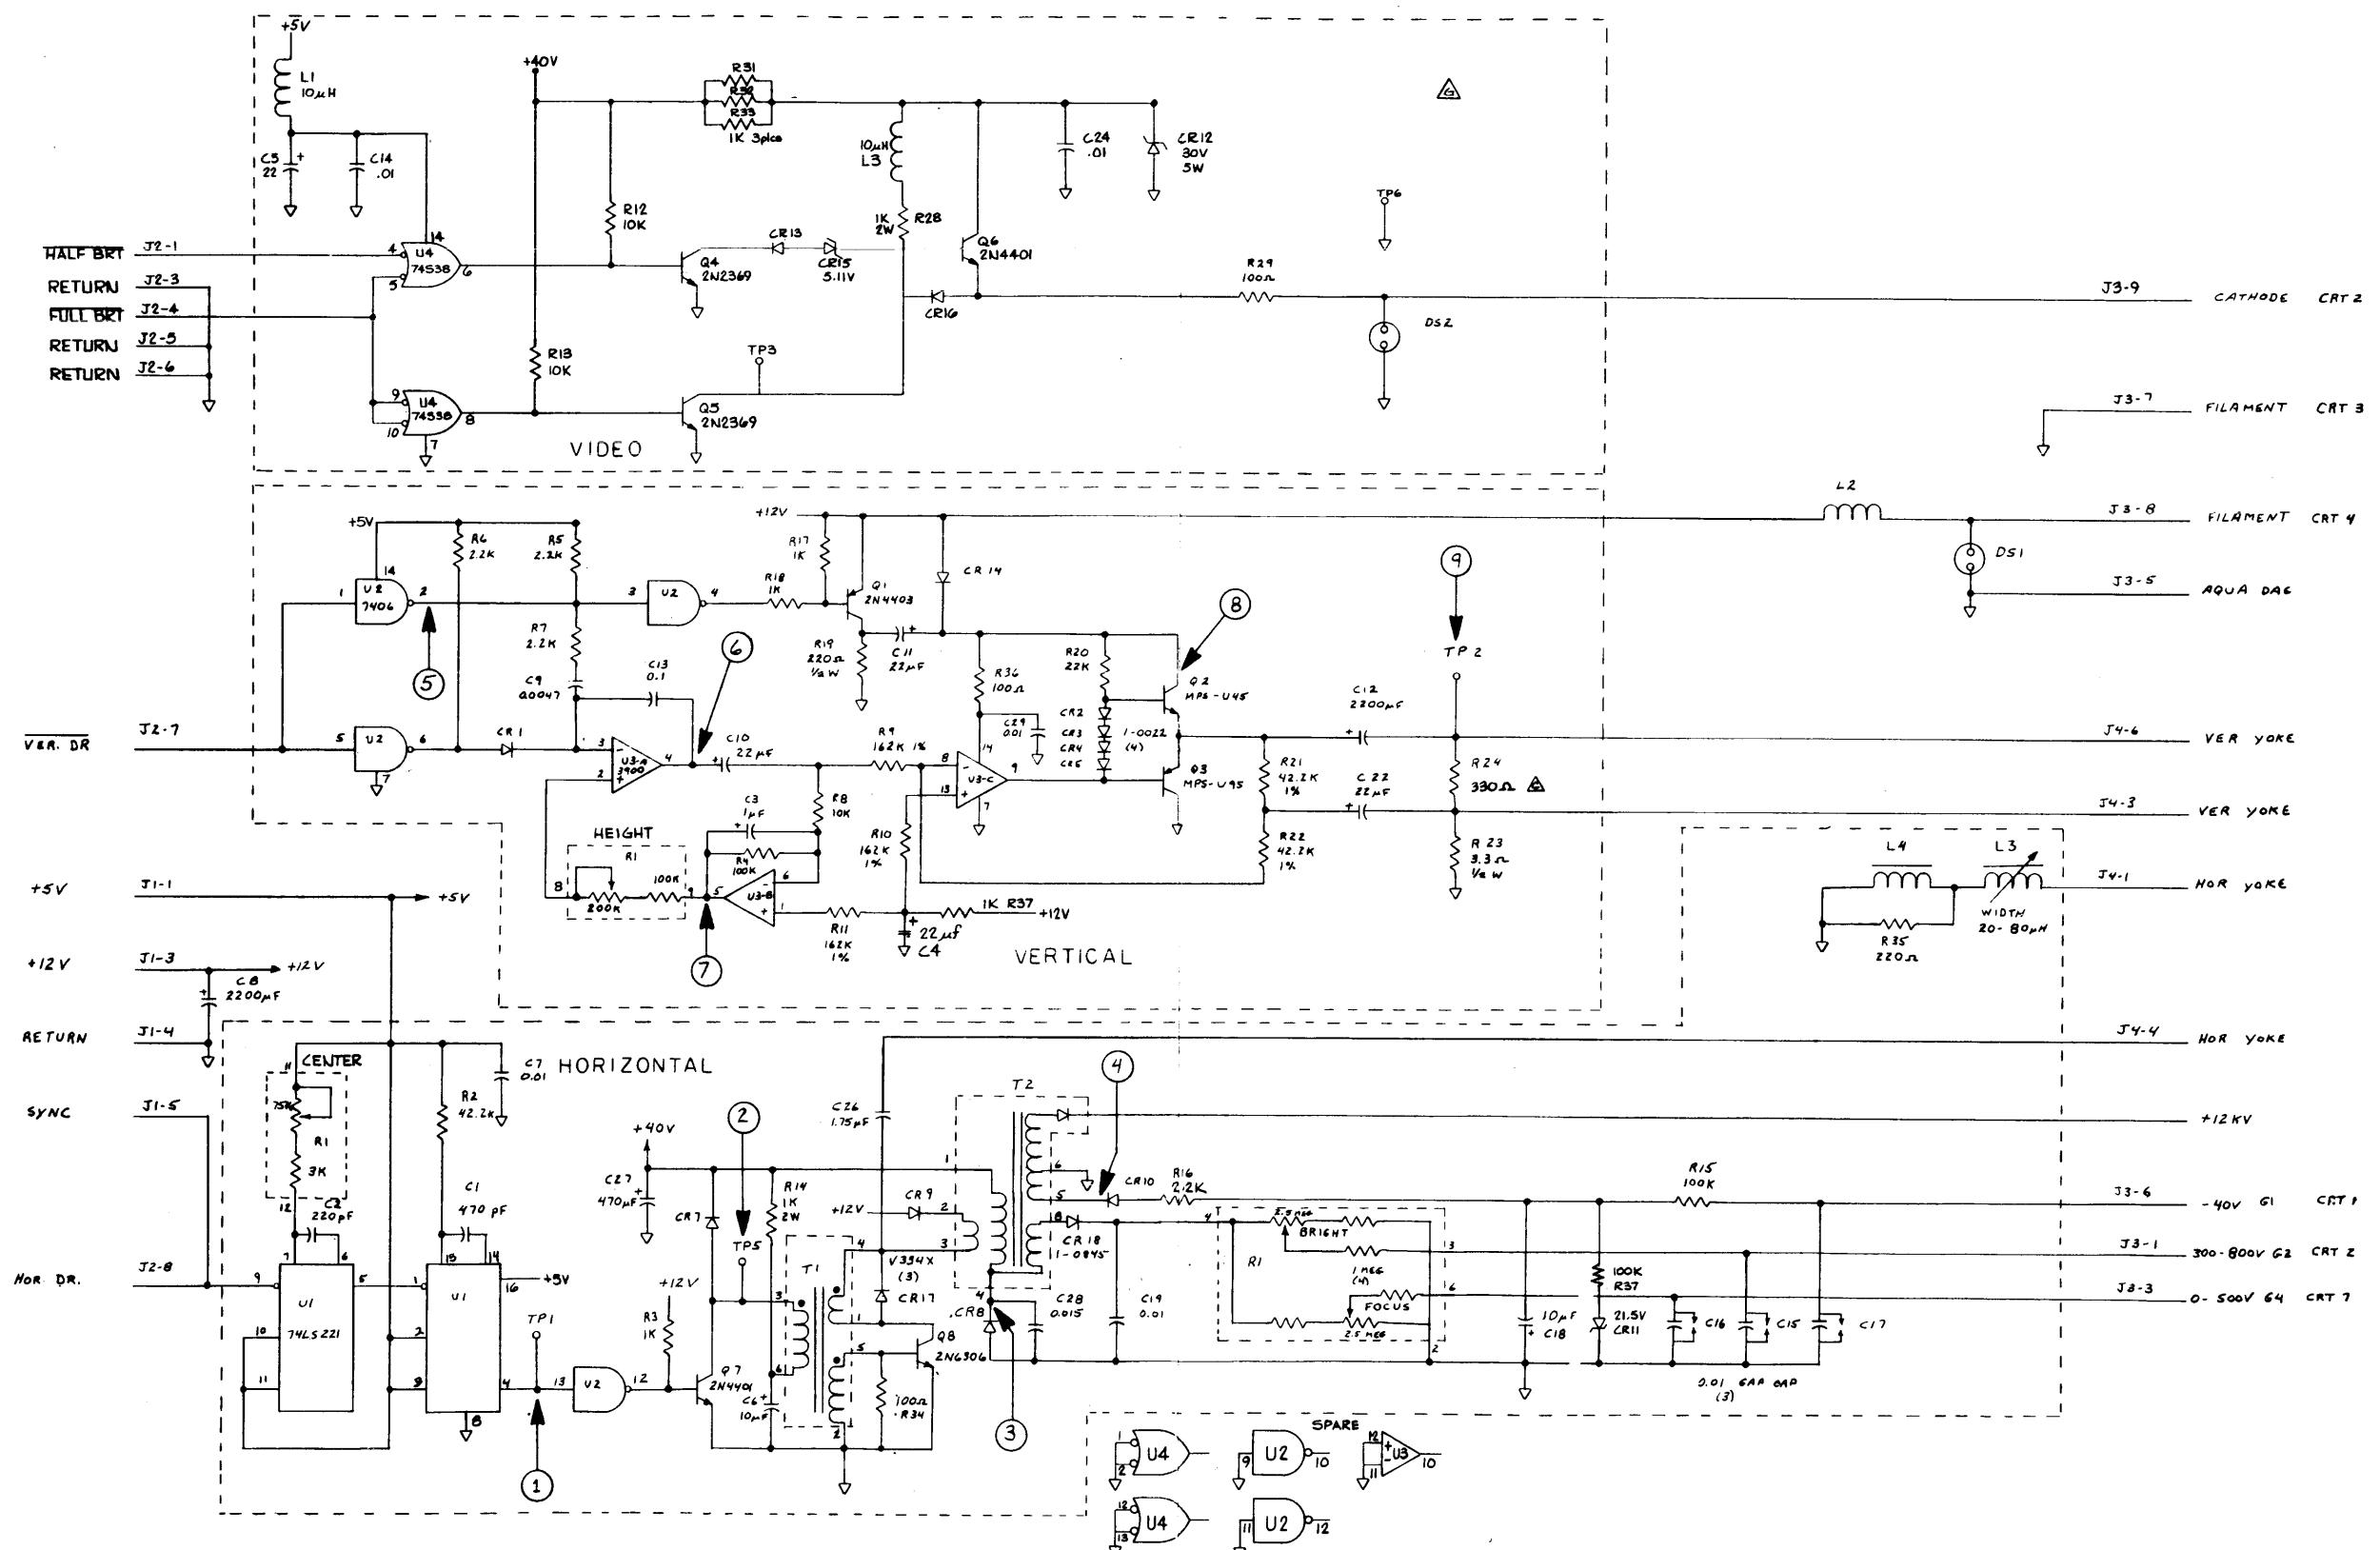
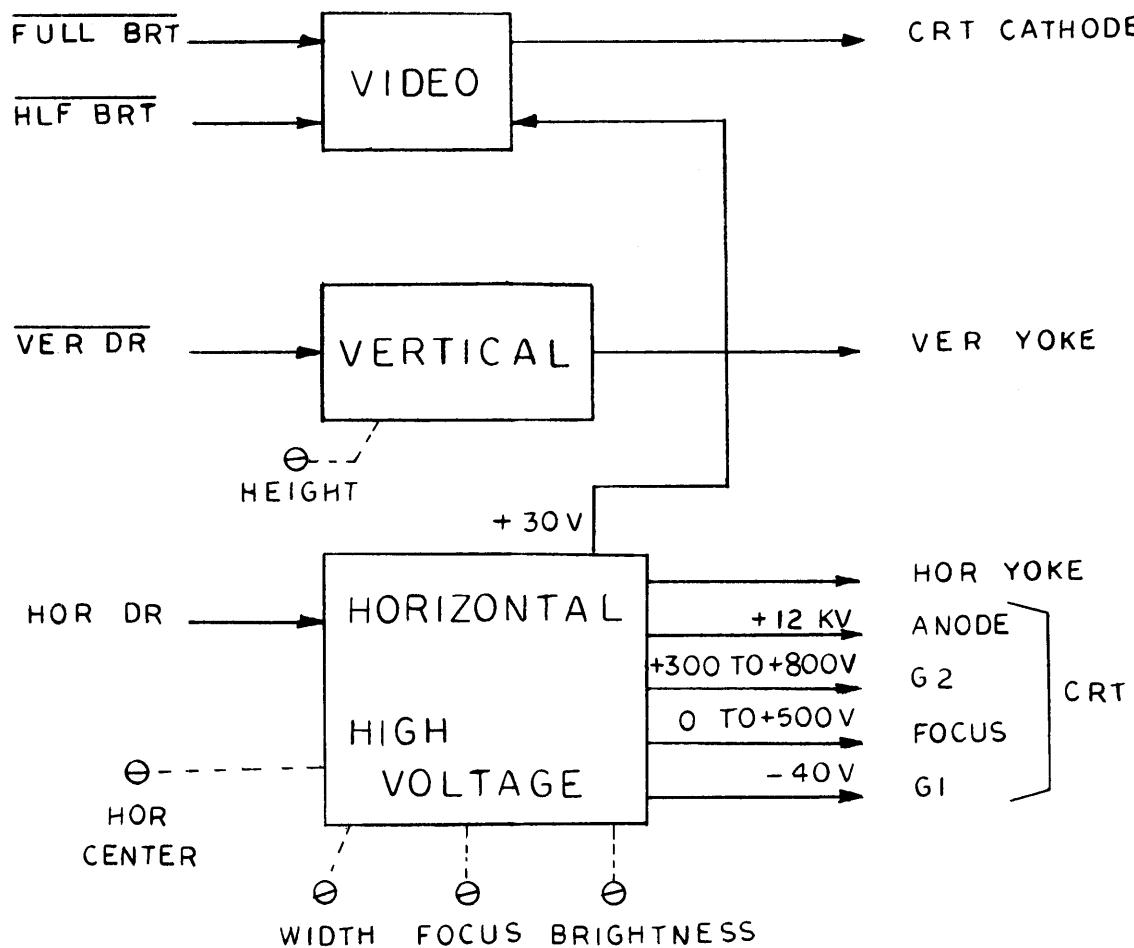
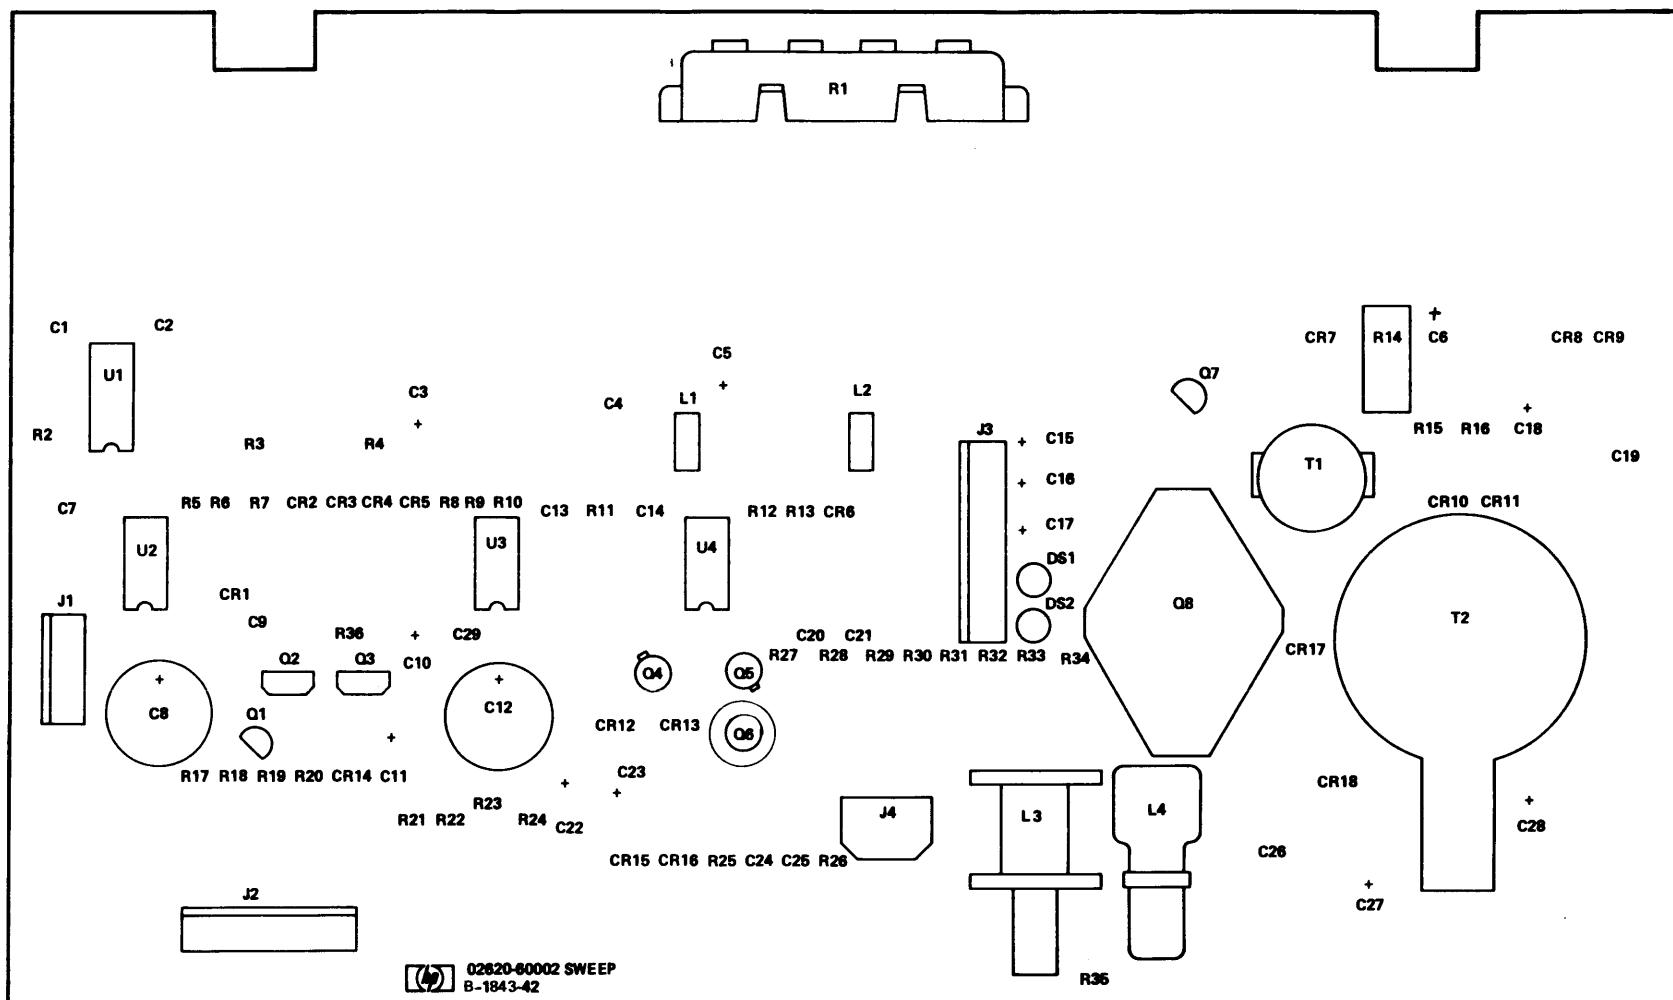

Figure 2
Figure 3
Figure 4
3.0 FUNCTIONAL DESCRIPTION. Refer to the block diagram (figure 1), schematic diagram (figure 2), timing diagram (figure 3), the component location diagram (figure 4), and parts list (02620-60002) located in the appendix.